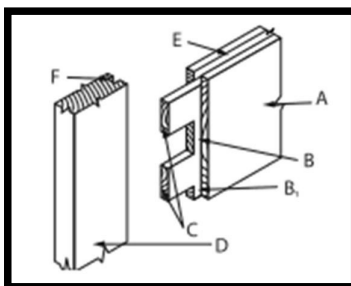

FIGURE 4.7
4.7 Figure 4.7 below shows a joint used in a three-panel door.